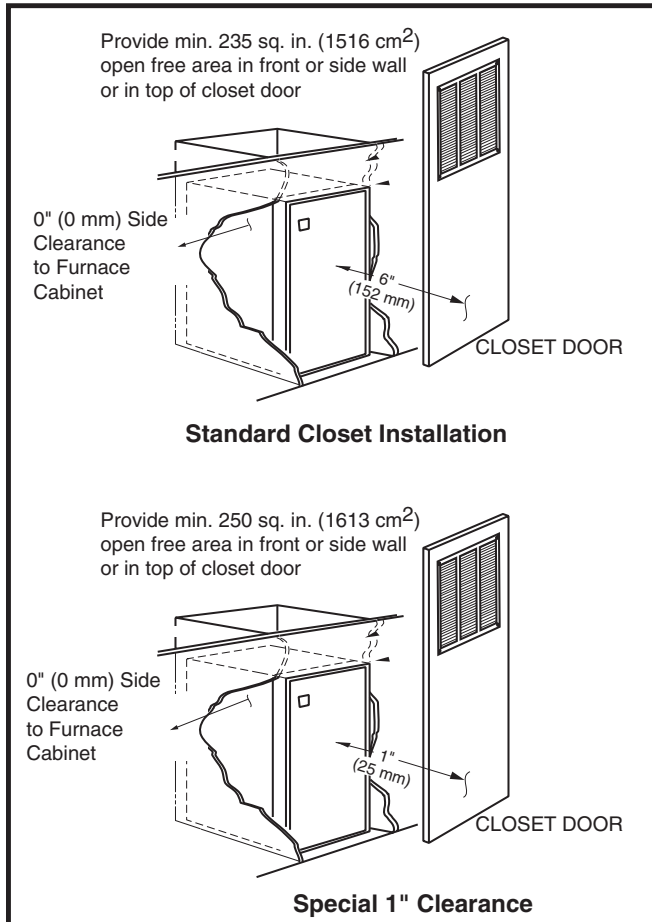
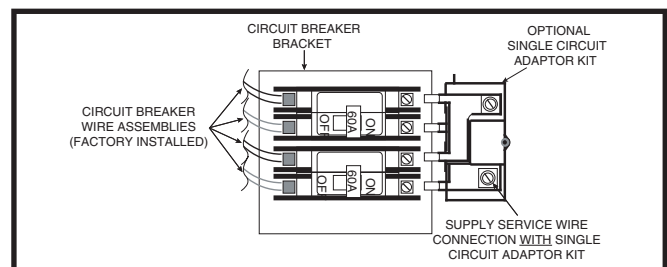
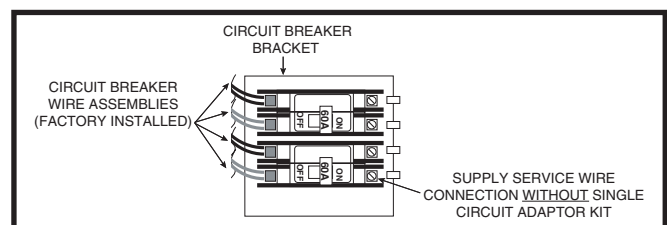

Figure 13. Closet Installation
Figure 16. Optional Single Circuit Adaptor Kit
Figure 17. Installation of Supply Service Wires
A2L refrigerant systems are required to have coil box installed with the appliance. R410A refrigerant systems are recommended to have a coil box installed with the appliance. In all configurations, return air must meet requirements found in Minimum Unobstructed Airflow section. See Figure 13 \(page 10\).
3. Secure front of unit with one or more fasteners at mounting hole(s) provided or at tie-down tab. See Figure 13 \(page 10\) or Figure 17 \(page 11\).
- -012 models are factory-wired for single-branch supply circuit (single-circuit kit factory installed). Dual-branch circuit can be used by removing factory-installed single-circuit kit. See Figure 16 \(page 11\).
5. Insert supply service wire(s) through cable connector(s) and connect wires to circuit breakers (Figure 16 & Figure 17). **NOTE:** To install single-circuit kit, perform step 5. If single-circuit kit installation is not needed, go to step 6. A spacer has been provided that must be installed as a reinforcement where the whip/conduit enters the unit. Break this spacer in half and use the appropriate size.